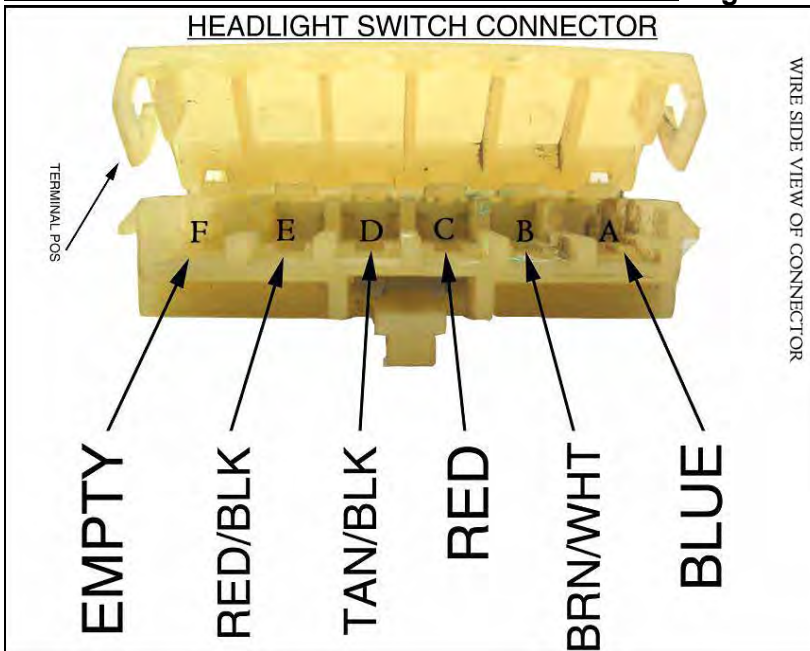

Figure 7.1.3 Headlight Switch Pin Out
- 7.1.3 Using **Figure 7.1.3** for reference, insert the wires from the Painless kit into the correct position in the connector. The terminal will only go into the connector one way. If the terminal does not lock, do not force it; make sure you do not have it in upside down. Close the terminal position lock when finished.
- 7.1.4 If you do not have a factory connector, you can simply install the terminals over the "pegs" coming out of the switch, using **Figure 7.1.3** for reference. If you must make this connection in this manner, electrical tape or heat shrink should be placed around the terminals on the Painless harness before installation to ensure they do not short with one another if they ever happen to make contact.